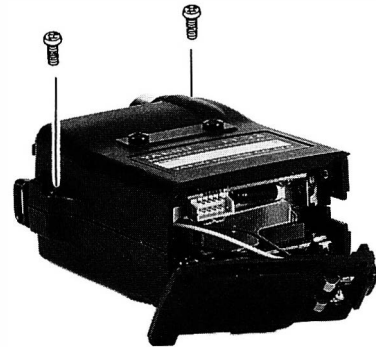

Fig. 2
- ❑ Remove the screws on each side of the rear cover, as shown in Figure 2.